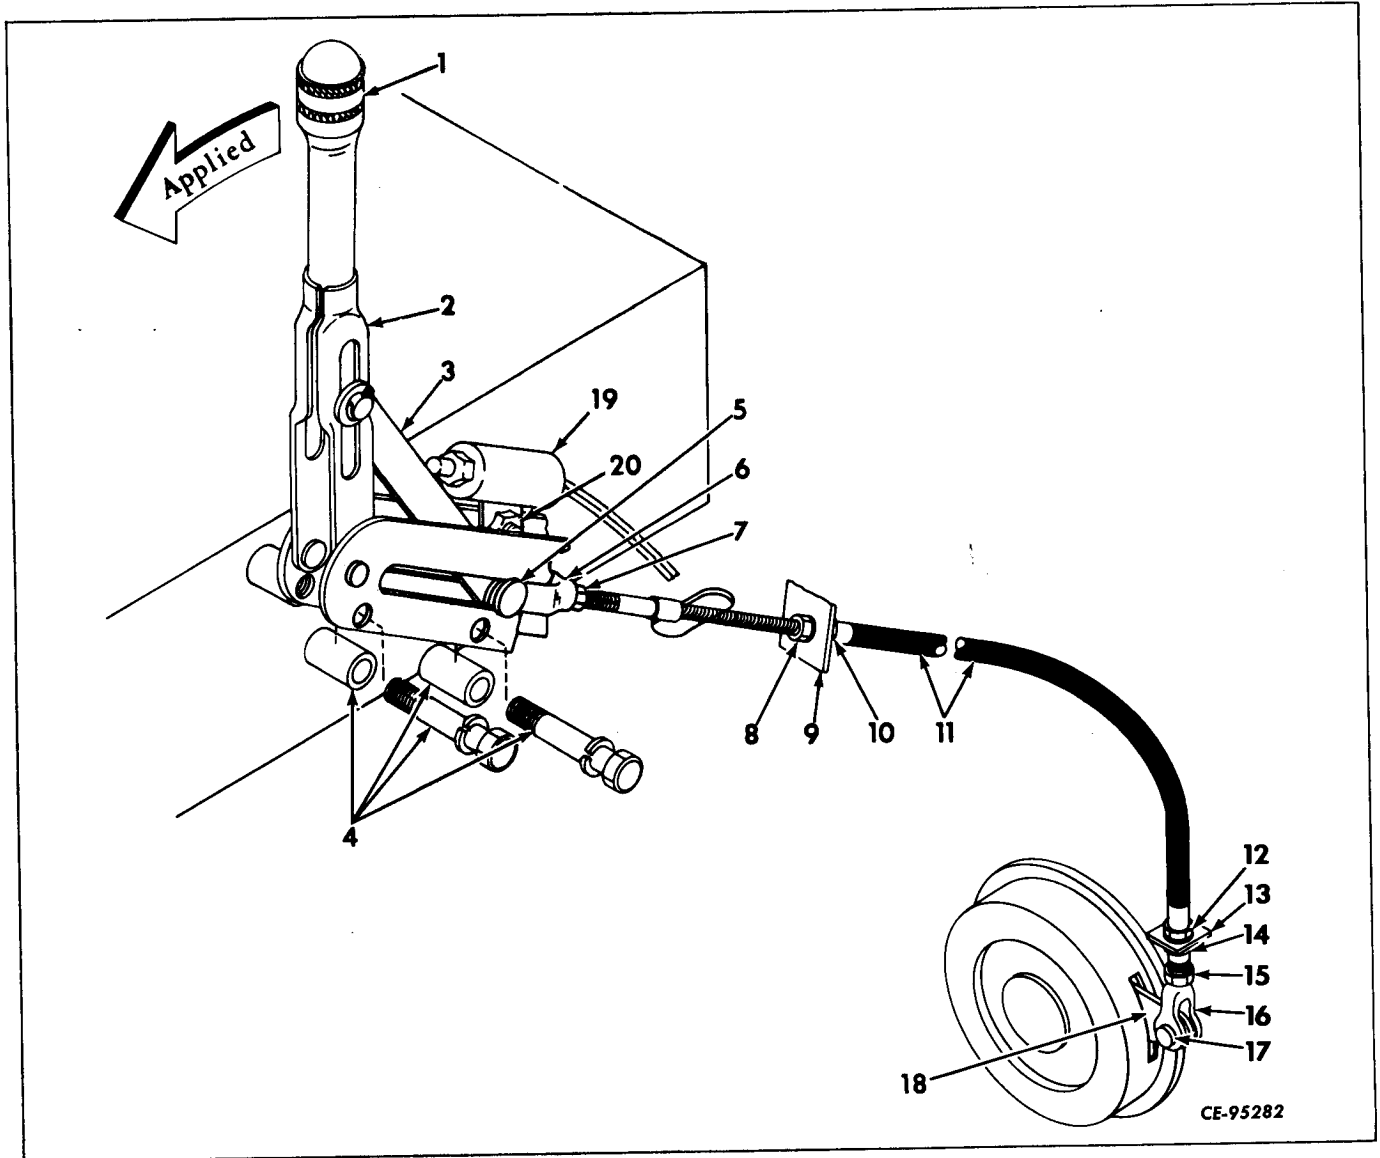

Figure 9-17
From the operator's compartment, remove cotter pin and flat washer (5, Fig. 9-17) and pull clevis pin (5) from parking brake assembly disconnecting control cable (11) from link (3).
Install lever assembly (2, Fig. 9-17) to frame mounting bosses by inserting and tightening cap screws (4) and lock washers. Spacers should be assembled between brake lever assembly.
A minor parking brake adjustment can be made by rotating the adjusting cap (1, Fig. 9-17) mounted on top of the parking brake lever. To increase tension, turn cap clockwise. If adjustment is at its maximum, major adjustment is necessary.